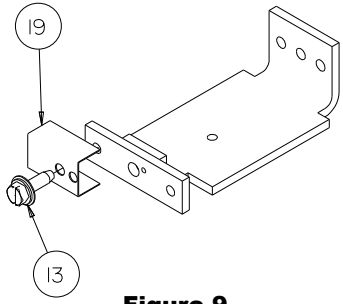

Figure 9
10. Reference fig. 9 - Installing the provision barrier (item 19). In case of a provision, orient the barrier as shown in fig 9. Insert the 5/16-18" screw (item 13) through the 0.312 hole in the barrier and through the 0.281 hole in the B-phase and tighten. Repeat this step if there is another provision.